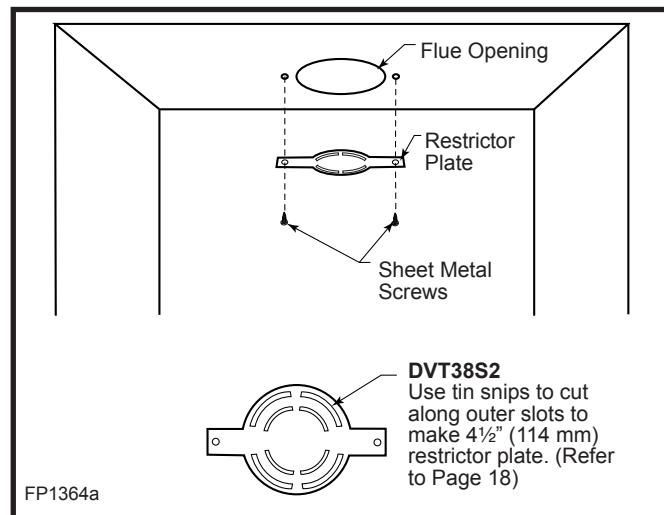
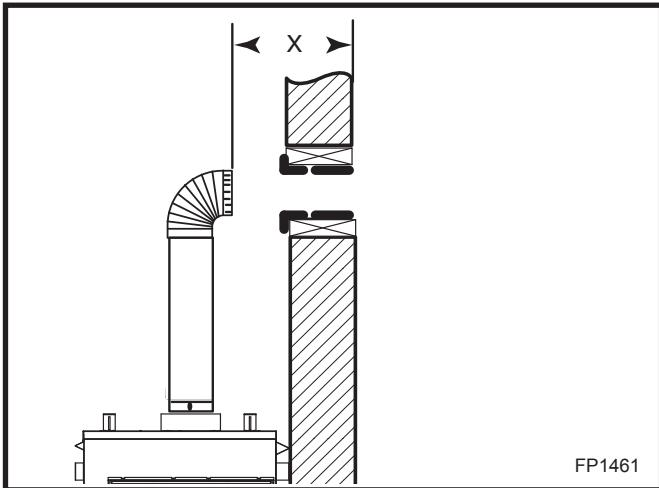

Fig. 29 Restrictor plate location.
Fig. 30 Flue restrictor plate use in straight up installation.
Using the two (2) screws provided along with the flue restrictor plate shipped with the logset, fasten the restrictor plate to the firebox top through the front of the unit. (Fig. 29)
plicable. When using the unitized 30°, 45° or 90° elbows, apply 1/4" bead of high temperature, 550°F or higher, sealant (milpack or stove cement) to the joint of the inner pipe (flue pipe) and the straight section as it is impossible to be taped. The outer pipe must be taped with 315°F high temperature metal adhesive tape for proper sealing. For vertically venting either propane or natural gas units, with vertical vent heights of 12' (3.7 m) or greater, (measured from the top of the flue collar) the flue restrictor plate as supplied with this unit should be used. (Fig. 30) Refer to Figure 29 for flue restrictor plate installation.